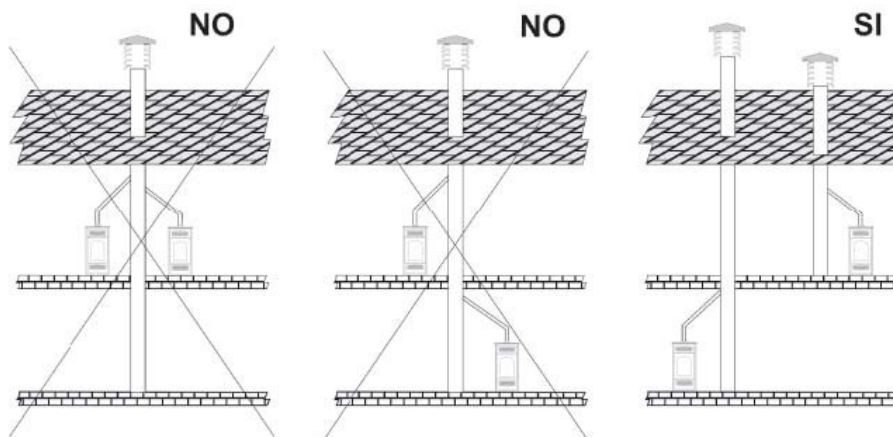

Fig 1
- It must not be connected to any other fireplace, stove, boiler, or hood of any kind (*fig. 1*).